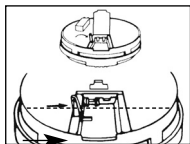

FIGURE 9
CAUTION! IF THE BATTERY REMINDER FINGER(S) ARE NOT HELD DOWN IN THE BATTERY COMPARTMENT BY THE BATTERY, THE BATTERY DOOR WILL NOT CLOSE, THE AC QUICK CONNECTOR WILL NOT ATTACH TO THE ALARM, AND THE ALARM WILL NOT ATTACH TO THE TRIM RING (SEE SECTION 6, FIGURE 9).
When installing the battery, press the battery reminder finger down into the battery compartment and install the battery (see figure 9).